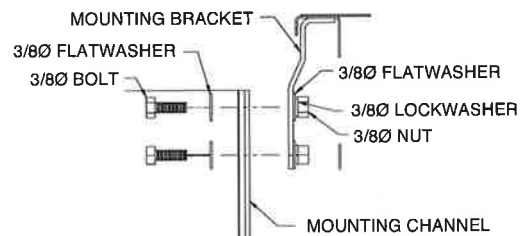

Figure 24 – Mounting Channel Installation
2. Use 3/8" flat washers, lock washer and nuts to secure the mounting channel to the bracket. (see Figure 24)